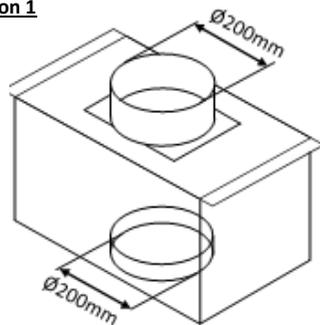

Fig 45
The AMR20 motor is an internal motor and can be installed anywhere along the ducting no more than 6m away from the hood. The AMR20 motor has only 2 connections but the plate can be turned 90 degrees to give 2 options (Fig 45 & 46).
1. Cut out a 270x270mm square in the bottom of the cupboard to fit the motor (Fig 45).